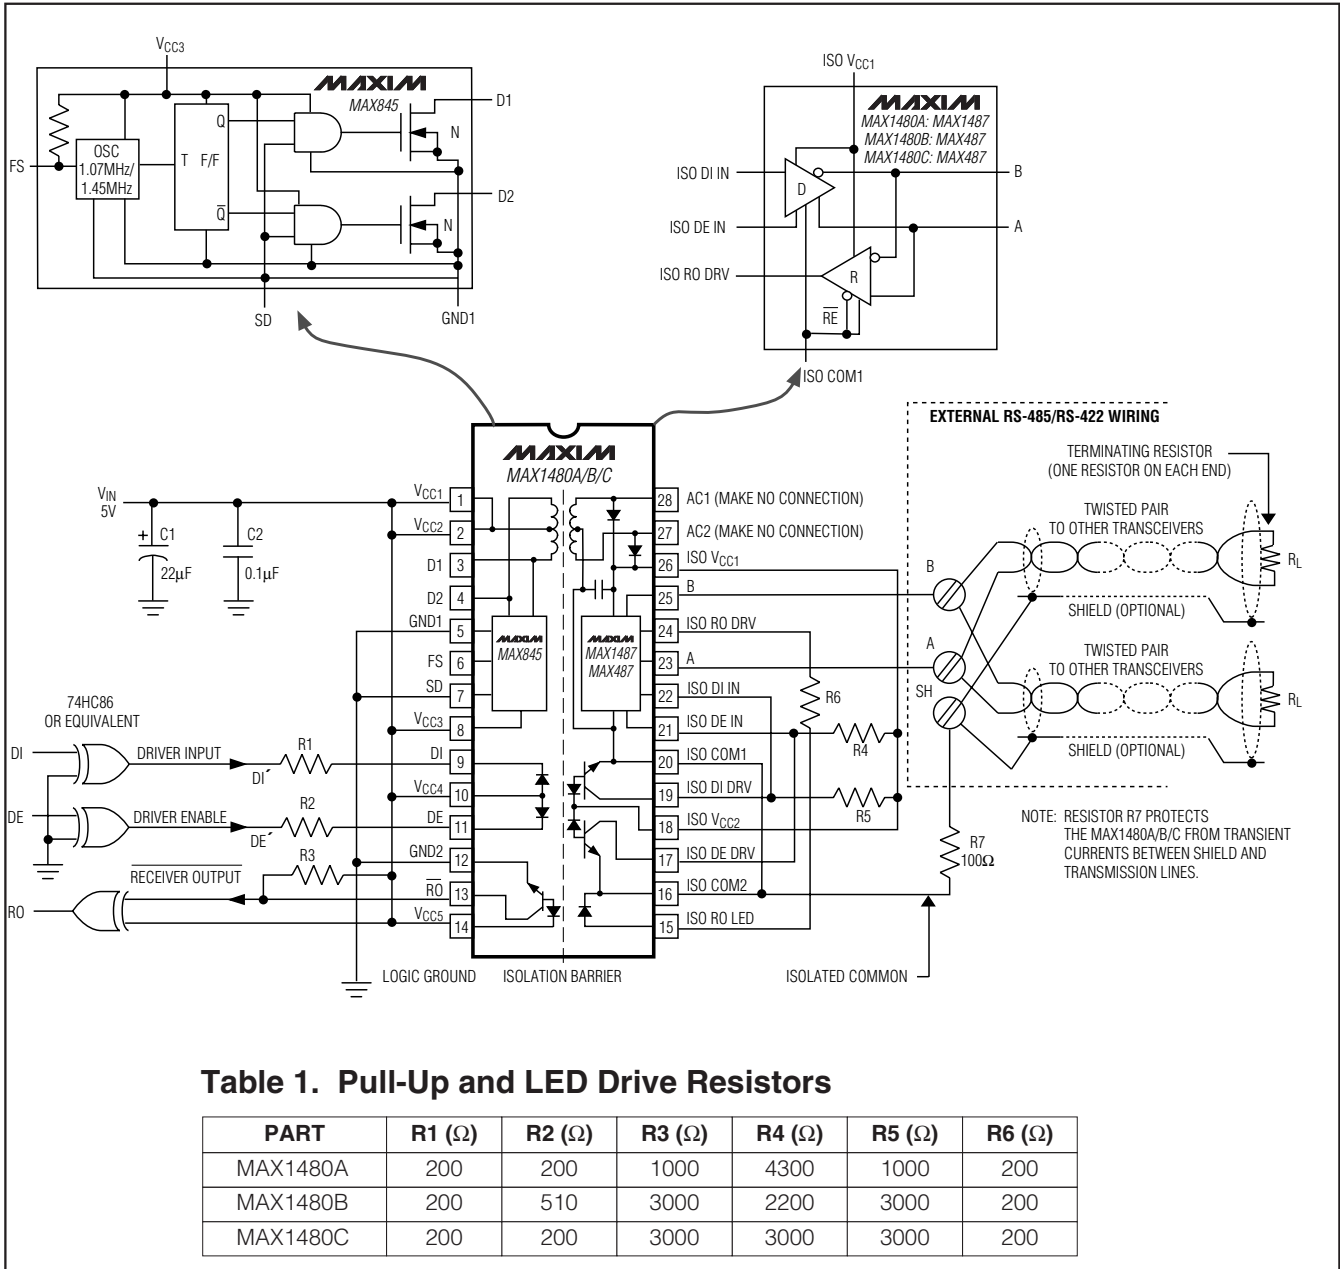
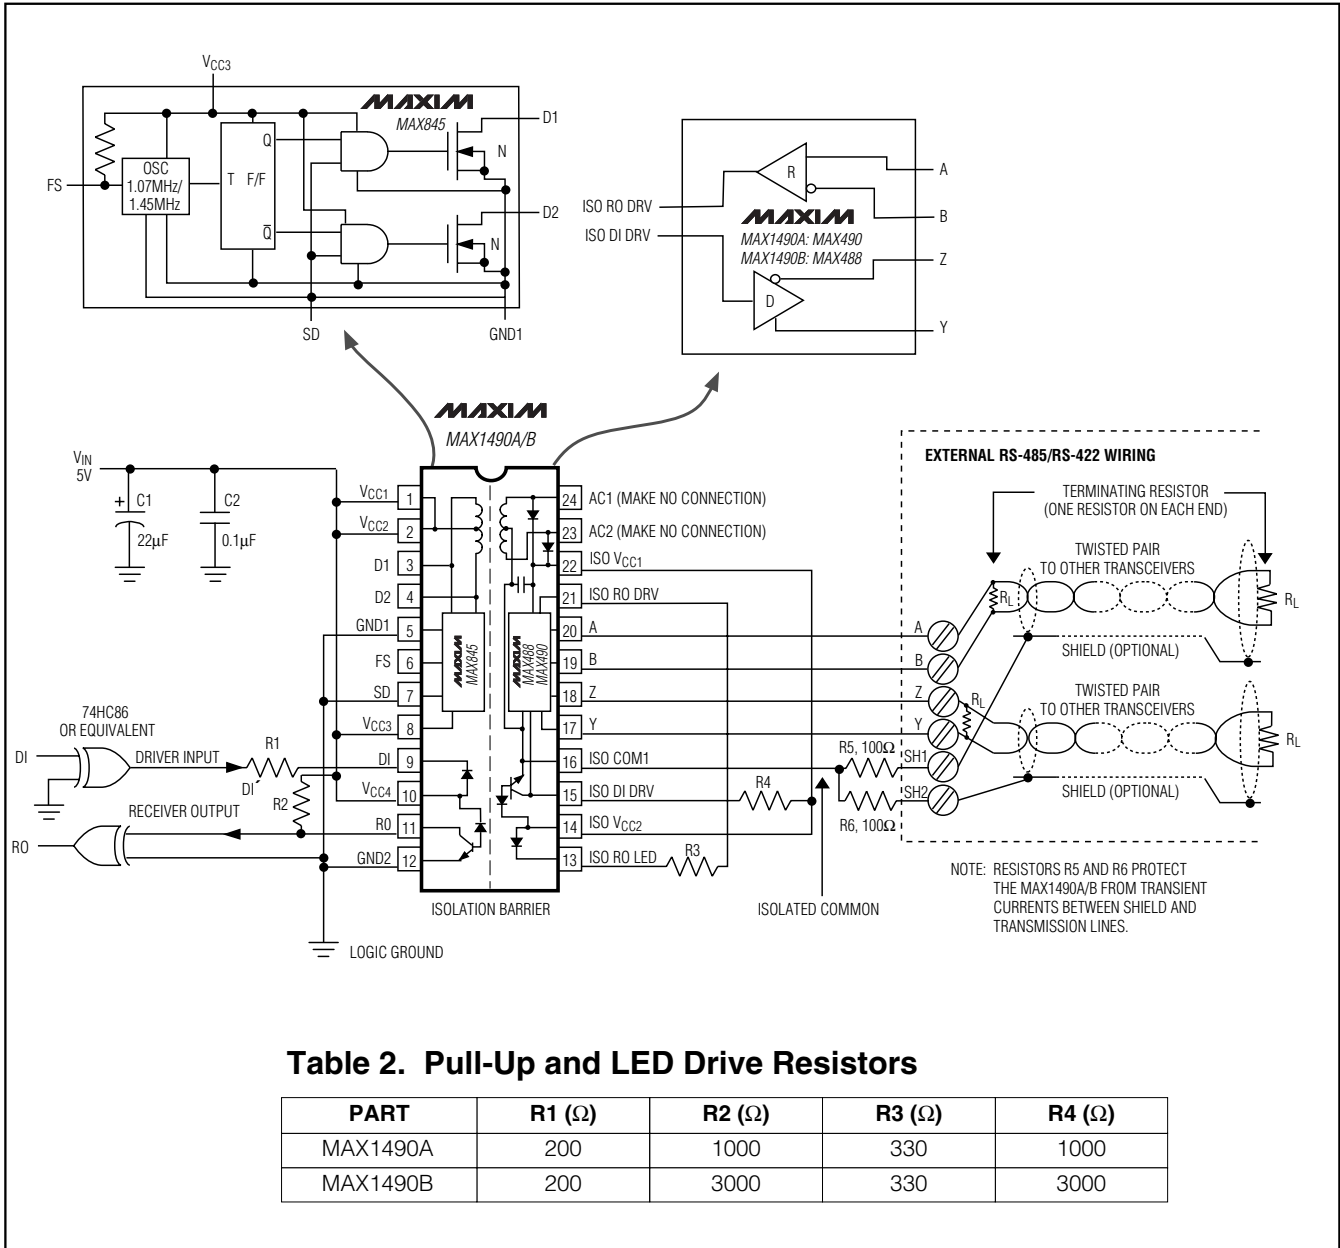

Figure 1. MAX1480A/MAX1480B/MAX1480C Detailed Block Diagram and Typical Application Circuit
Figure 2. MAX1490A/MAX1490B Detailed Block Diagram and Typical Application Circuit
Note 2: For DE⁺ and DI⁺ pin descriptions, see *Detailed Block Diagram and Typical Application Circuit* (Figure 1 for MAX1480A/MAX1480B/MAX1480C, Figure 2 for MAX1490A/MAX1490B).
| 9 | 9 | DI | Driver Input. With DE [′] high (MAX1480A/B/C only), a low on DI [′] forces output A low and output B high. Similarly, a high on DI [′] forces output A high and output B low. Drives internal LED cathode through a resistor (Table 1 of Figure 1 for MAX1480A/B/C, Table 2 of Figure 2 for MAX1490A/B). |
| 11 | — | DE | Driver-Enable Input. The driver outputs, A and B, are enabled by bringing DE [′] high. The driver outputs are high impedance when DE [′] is low. If the driver outputs are enabled, the device functions as a line driver. While the driver outputs are high impedance, the device functions as a line receiver. Drives internal LED cathode through a resistor (Table 1 of Figure 1). |
| — | 11 | RO | Receiver Output. If A > B by 200mV, RO will be high; if A < B by 200mV, RO will be low. Open collector; must have pullup to V _{CC} (Table 2 of Figure 2). |
| 13 | — | \overline{RO} | Receiver Output. If A > B by 200mV, \overline{RO} will be low; if A < B by 200mV, \overline{RO} will be high. Open collector; must have pullup to V _{CC-} (Table 1 of Figure 1). |
| 15 | 13 | ISO RO LED | Isolated Receiver Output LED. Internal LED anode in MAX1480A/B/C and LED cathode in MAX1490A/B. Connect to ISO RO DRV through a resistor (Table 1 of Figure 1 for MAX1480A/B/C; Table 2 of Figure 2 for MAX1490A/B). |
| 17 | — | ISO DE DRV | Isolated Driver-Enable Drive. The driver outputs, A and B, are enabled by bringing DE [′] high. The driver outputs are high impedance when DE [′] is low. If the driver outputs are enabled, the device functions as a line driver. While the driver outputs are high impedance, the device functions as a line receiver. Open-collector output; must have pullup to ISO V _{CC-} and be connected to ISO DE IN for normal operation (Table 1 of Figure 1). |
| 19 | 15 | ISO DI DRV | Isolated Driver-Input Drive. With DE [′] high (MAX1480A/B/C only), a low on DI [′] forces output A low and output B high. Similarly, a high on DI [′] forces output A high and output B low. Connect to ISO DI IN (on the MAX1480A/B/C only) for normal operation. Open-collector output; connect a pullup resistor to ISO V _{CC-} (Table 1 of Figure 1 for MAX1480A/B/C; Table 2 of Figure 2 for MAX1490A/B). |
| 20 | 16 | ISO COM1 | Isolated Common. For MAX1480A/B/C, connect to ISO COM2 (pin 16) (Figures 1 and 2). |
| 24 | 21 | ISO RO DRV | Isolated Receiver-Output Drive. Connect to ISO RO LED through a resistor (Table 1 of Figure 1 for MAX1480A/B/C, Table 2 of Figure 2 for MAX1490A/B). |
Note: For DE⁺ and DI⁺ pin descriptions, see *Detailed Block Diagram and Typical Application Circuit* (Figure 1 for MAX1480A/B/C, Figure 2 for MAX1490A/B).
The MAX1480A/MAX1480B/MAX1480C/MAX1490A/MAX1490B are complete, electrically isolated, RS-485/RS-422 data-communications interface solutions. Transceivers, optocouplers, a power driver, and a transformer in one standard 28-pin DIP package (24-pin for the MAX1490A/B) provide a complete interface. Signals and power are internally transported across the isolation barrier (Figures 1, 2). Power is transferred from the logic side (nonisolated side) to the isolated side of the barrier through a center-tapped transformer. Signals cross the barrier through high-speed optocouplers. A single +5V supply on the logic side powers both sides of the interface. The MAX1480A/B/C offer half-duplex communications while the MAX1490A/B feature full-duplex communication. The functional input/output relationships are shown in Tables 3–6.
* For DE' and DI' pin descriptions, see *Detailed Block Diagram and Typical Application Circuit* (Figure 1 for MAX1480A/B/C, Figure 2 for MAX1490A/B).
The MAX1480A/MAX1480B/MAX1480C/MAX1490A/MAX1490B are specified and characterized using the resistor values shown in Table 1 of Figure 1 and Table 2 of Figure 2. Altering the recommended values can degrade performance.
The isolated common may be completely floating with respect to the logic ground and the effective network ground. The receiver input resistors will cause the isolated common voltage to go to the mean voltage of the receiver inputs. If using shielded cable, connect the isolated common to the shield through a 100Ω resistor. In the case of the MAX1490, each shield should have its own 100Ω resistor (Figures 1, 2, 13, and 14).